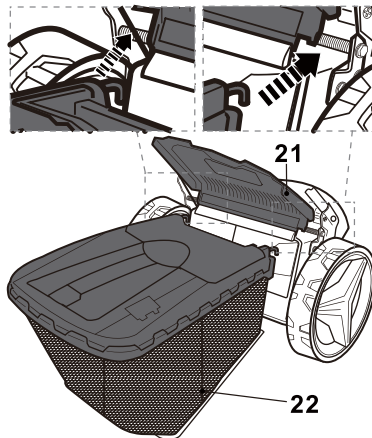

Fig. 7
1. Remove the covers from the hooks on the grass catcher (22).
2. Open the rear deflector guard (21) hold it in position and align the hooks on the grass catcher (22) with the rod to hang it onto it (Fig. 7).